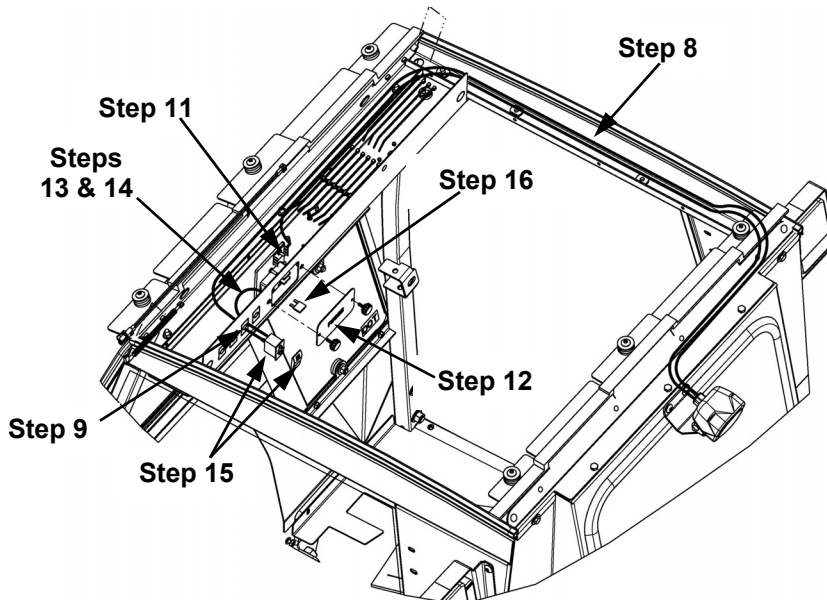

Figure 5
7. Locate rear light wire harness with light connector end (8). Connect to light (**Figure 5**).
8. Route opposite end of wire harness, from rear of cab, along RH cab header channel, to the front switch panel area (**Figure 5**).
9. Select an empty location on switch panel for rocker switch (5). Remove rectangular knockout (**Figure 5**).
10. Route red wire of rear light wire harness through switch knockout and connect to rocker switch terminal 3. Refer to labels on harness (**Figure 5**) for correct wire connections.
11. Connect **black** wire of harness labeled -12VDC Lights to ground terminal of fuse block (**Figures 5 and 6**).
14. Connect straight connector of wire through switch knockout hole and connect to rocker switch terminal 2 (**Figures 5 and 7**).
15. Attach switch actuator (6) to rocker switch (5) then install switch into knockout (**Figure 5**).